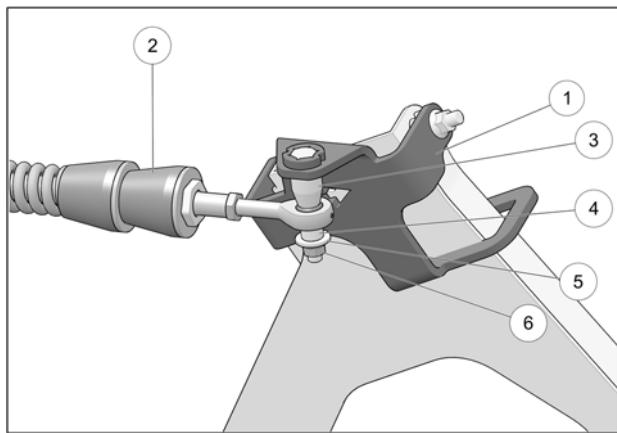

Fig. 13
- Attach stabilizing rod (2) to anchor bracket (1), using long spacer bushing (3), short spacer bushing (4), flat washer (5) and nut (6). Torque to 70 N·m [52 lb·ft]. See Fig. 13